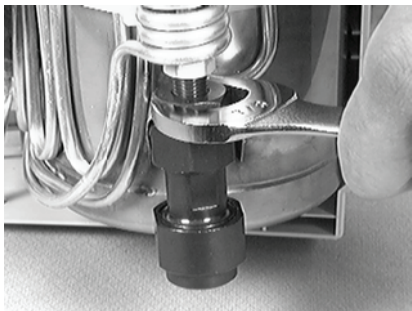

Figure 23: QDV Removal
- 3) Use a 7/8inch open-end wrench to loosen the jam nut (earlier models may have a 5/8inch jam nut) that holds the female adapter to the mounting bracket. Pull the fill connector assembly down slightly to clear the fill tube and then slide it out of the mounting bracket (Figure 23).